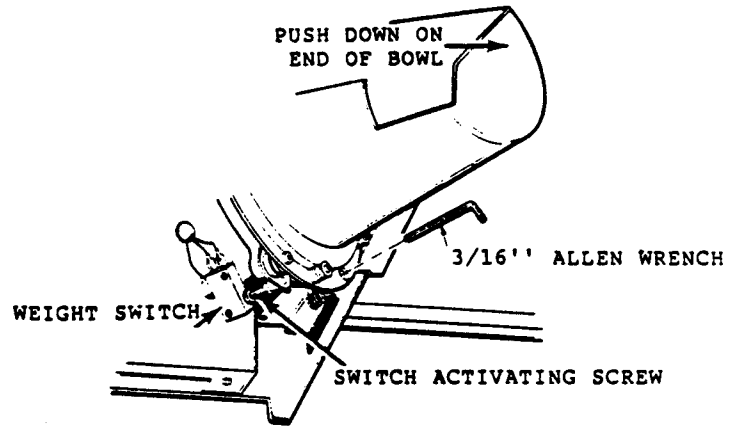

Figure 4-13
- 2) Push down on the end of the hopper bowl so that the bowl bottoms out in its travel. See Figure 4-13.